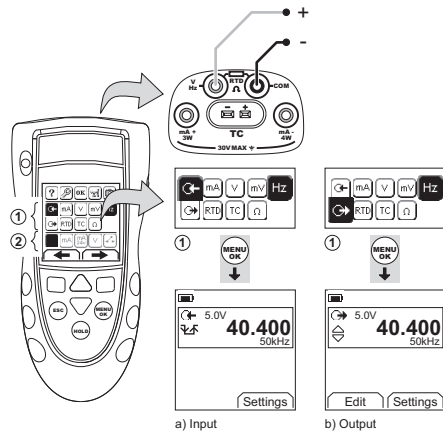

Figure 6: Example Configuration - To Measure/Supply Hz or Pulses
1. Connect the instrument (Figure 6) and, if necessary, adjust the Set Up (Table 1).